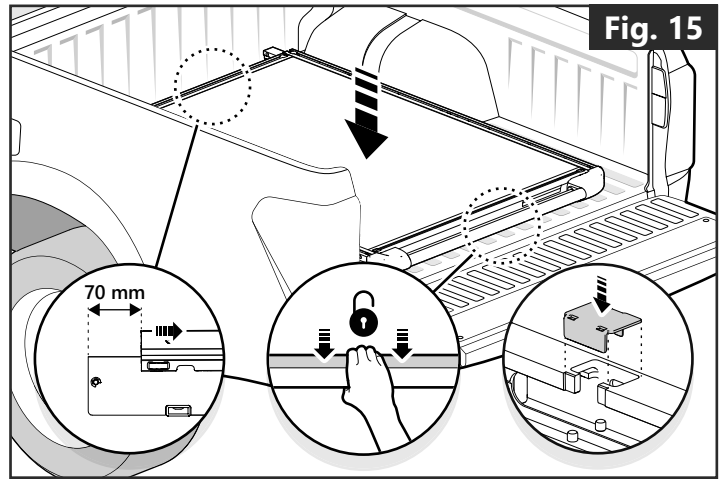

Fig. 15
- To re-attach the sliding deck, lower it into position in the base frame, while holding the handle in the unlocked position. Extend the sliding deck, and place the plastic inserts into the base frame. **(Fig. 15)**